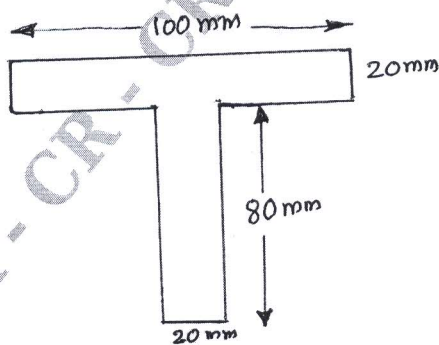

Fig.Q.7(b)
b. A cast iron beam is of T-section as shown in Fig.Q.7(b). The beam is simply supported on a span of 8m. The beam carries a UDL of intensity 1.5kN/m over entire span. Determine the maximum tensile and maximum compressive stresses.